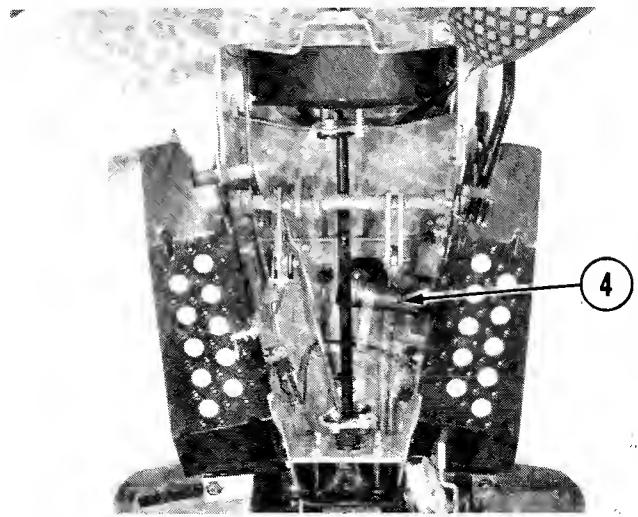

FIGURE 5 - Grease Fitting
4. One fitting on steering gear under tractor (Figure 5):